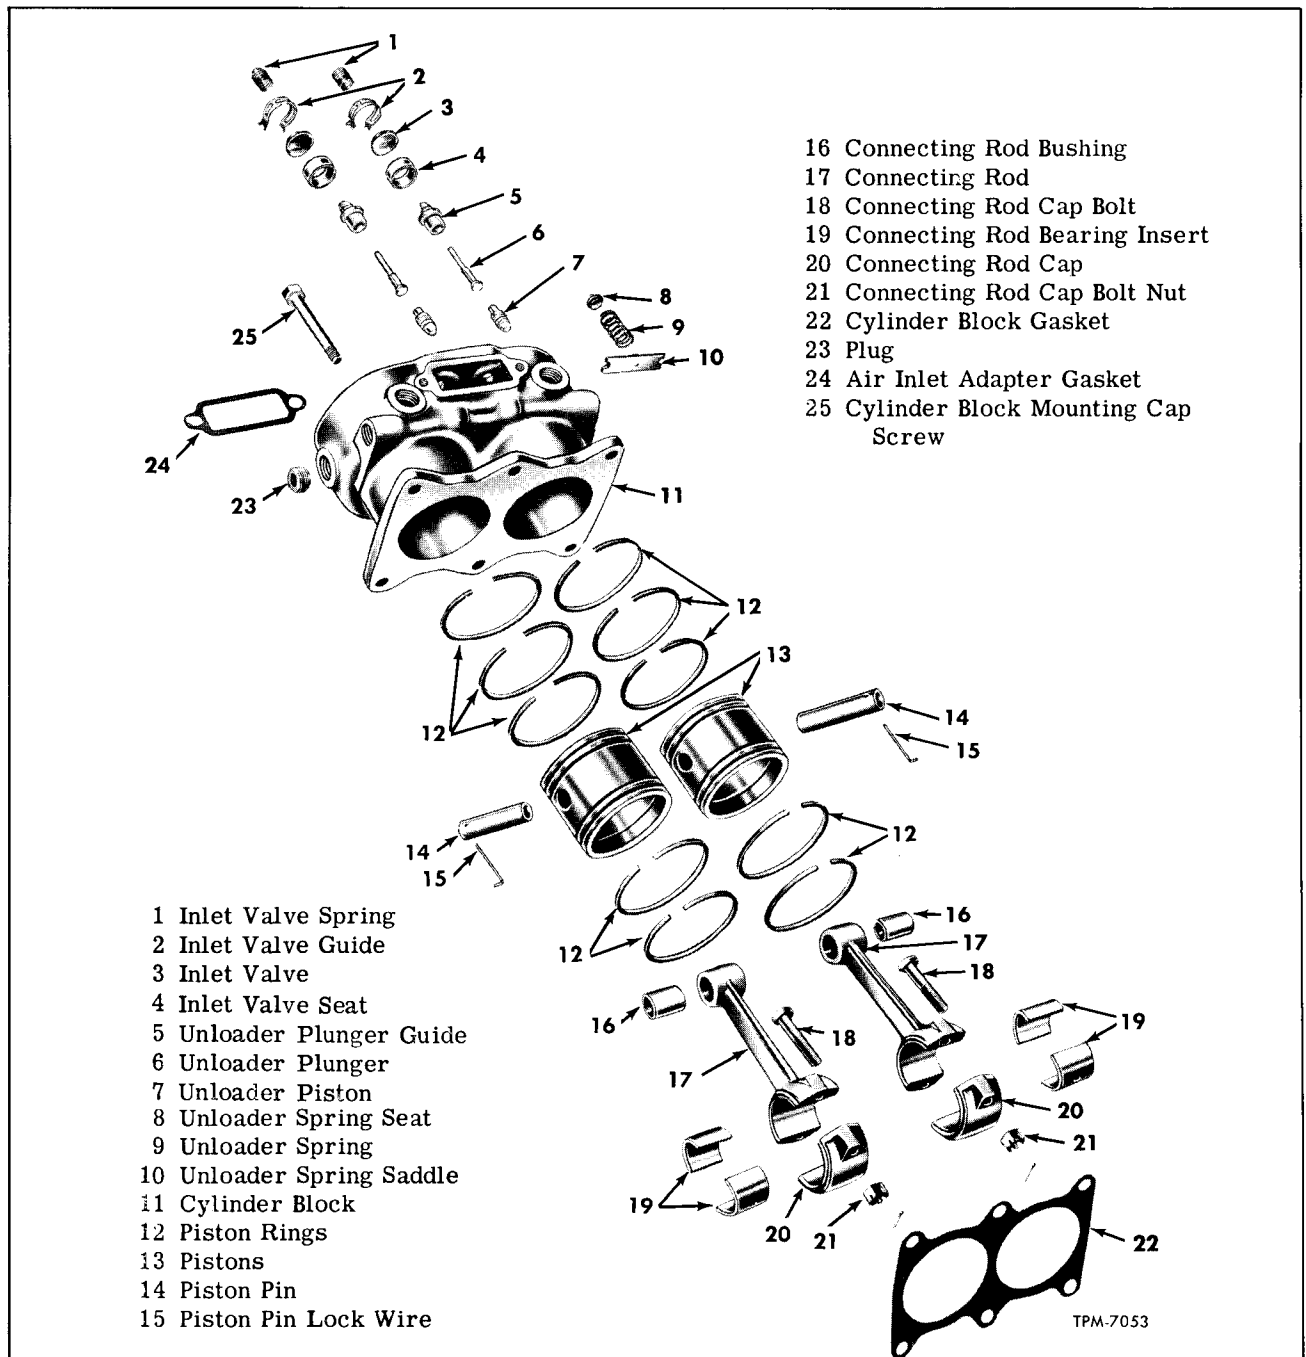

Figure 14—Cylinder Block Components
CYLINDER BLOCK INSTALLATION (Fig. 14)
Key numbers in text refer to figure 14.
2. Place inlet valves (3, fig. 14), inlet valve guides (2, fig. 14), and inlet valve springs (1, fig. 14) in bores in top of cylinder block.